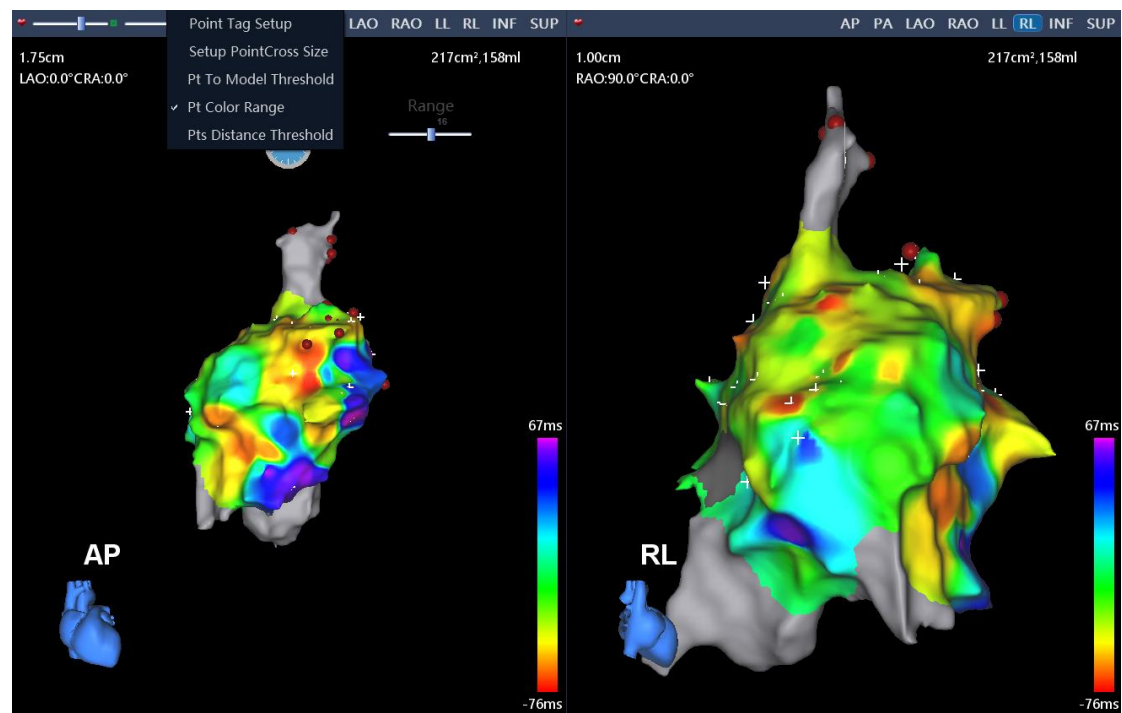

Figure 10-3 Color Fill Of Mapping Points
- 3) Drag the slider to set the appropriate threshold (Figure 10-3).